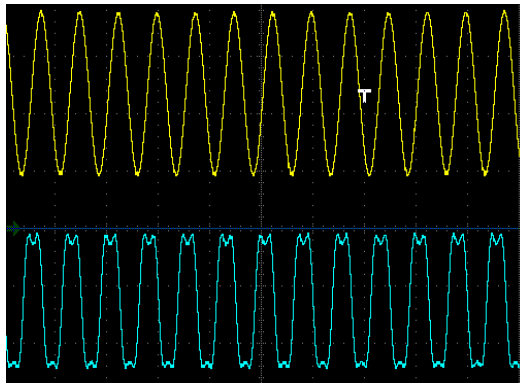

Figure 17: Electrical signals corresponding to the dither excitation (top) and interference signal (bottom).
Note that if the vibration amplitude of the cantilever is slightly higher than a quarter of the wavelength, the optical signal gets distorted at its extrema. This is shown in Figure 17, which illustrates the electrical signals corresponding to the dither excitation (top) and the interference signal (bottom). Sweeping the (DC) dither voltage and measuring the interference signal provides a quick calibration of the vibration amplitude of the cantilever.